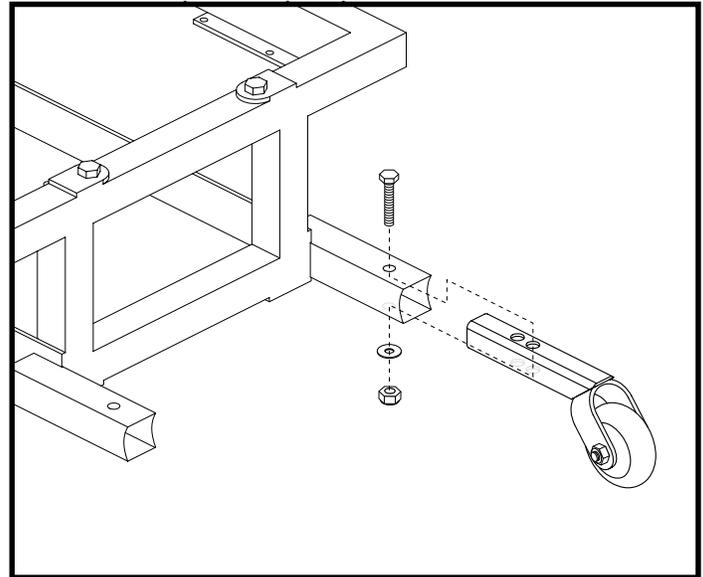

Figure 18. Anti-Tip Wheel Assembly
1. Remove the hardware from the anti-tip bracket. See figure 18.